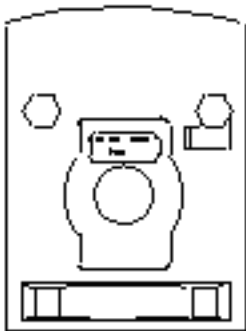

Figure 9.
1. Place the shield over the output shaft in the position shown and press the shield. Press firmly against the front of the opener. See Figure 9.
2. Place the gear over the square output shaft and push the gear against the shaft shoulder. See Figure 9.
3. Lock the shield and the gear in place by pressing where the words "Press here to lock" are located. The shield and the gear are locked when a click is heard. See Fig. 9. Check to be sure pulling out on the gear locks the gear. If the gear is properly locked in place it will not come off.